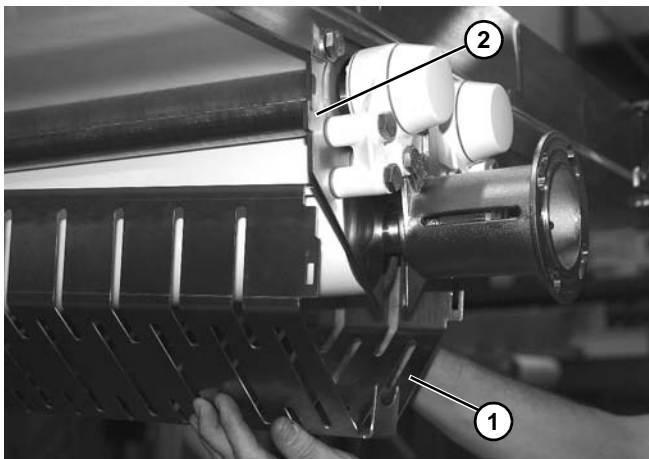

Figure 173
2. Repeat on opposite side and opposite end, and remove cover (Figure 173, item 1) from center drive side plates (Figure 173, item 2).